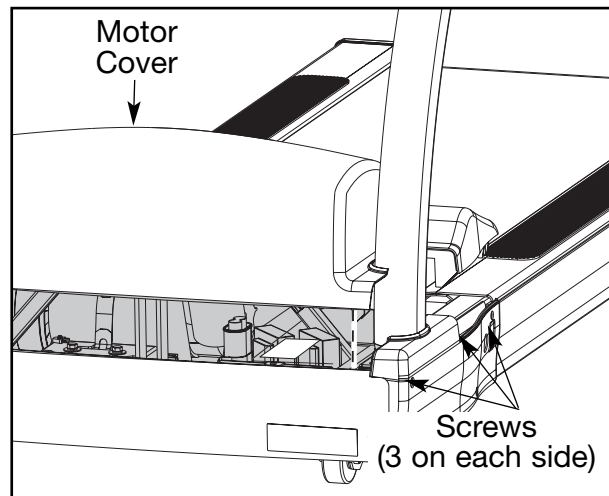

Figure 2
- Enter *Test Mode* by holding down any key on the display while turning the power switch to the on (I) position.
- Turn the main power switch on the left side to the off (O) position.
- Using a Phillips head screwdriver, loosen three screws on each motor cover side (left and right). See Figure 2.
- A. Plug the treadmill back in and turn it to the on (I) position.
- A. Lower the motor cover center into position. See Figure 2.
- E.** Press **Stop** and turn the power switch to the off (O) position.
- A.** Lower the motor cover center into position. See Figure 2.
- A. Using a Phillips head screwdriver, loosen three screws on each motor cover side (left and right). See Figure 2.
- B. Lift the motor cover center up and off the treadmill. The screws will stay in place. See Figure 2.
- A. Enter *Test Mode* by pressing and holding down any key on the display while turning the power switch to the on (I) position. When the key is released “TEST” and the software revision “rx.x” are shown on the display.
- A. Turn the main power switch on the left side to the off (O) position.
- A. Using a Phillips head screwdriver, loosen the three screws on each motor cover side (left and right). See Figure 2.
- B. Lift the motor cover center up and off the treadmill. **NOTE:** The screws will stay in place. See Figure 2.